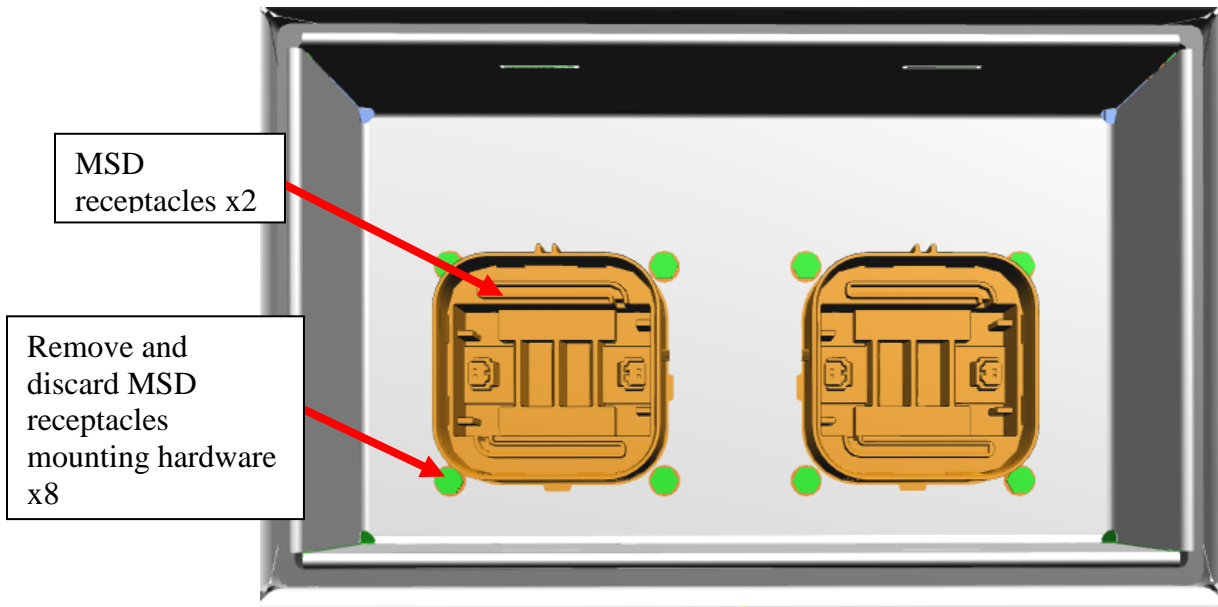

Figure 14: Rear ESS MSD Receptacles and bracket
- 4.1 Unfasten and discard MSD receptacle mounting hardware x8. See figure 14.